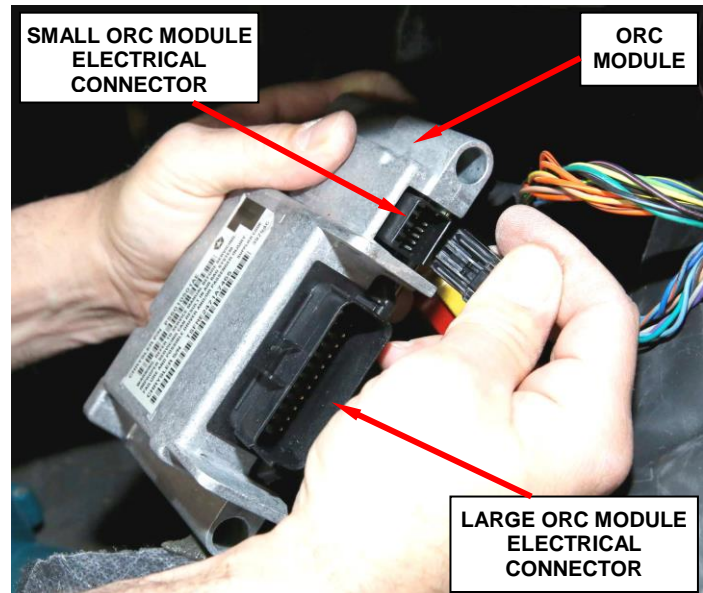

Figure 7 – Disconnect Small ORC Module Electrical Connector
16. Disconnect the small ORC module electrical connector (Figure 7).
18. Connect the large and small body harness electrical connectors to the new ORC module and place the module into position (Figure 7).